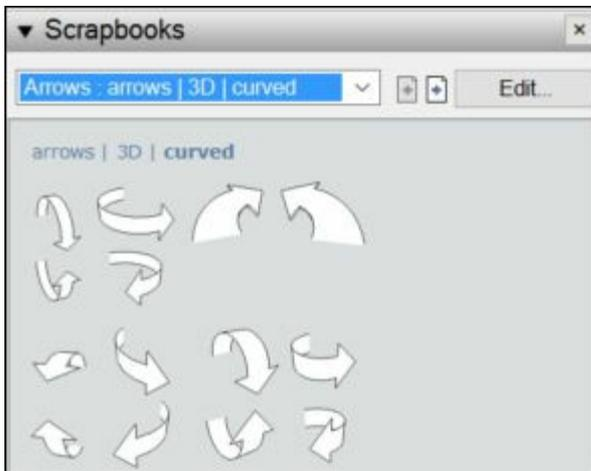

FIGURE 14-9: Scrapbooks contain all sorts of images you can insert into a LayOut document.
- » **Borrow shamelessly from the Scrapbooks panel.** One of the best things about LayOut is the hundreds — maybe thousands — of predrawn graphical elements you can find in the Scrapbooks panel (shown in Figure 14-9). You find things like